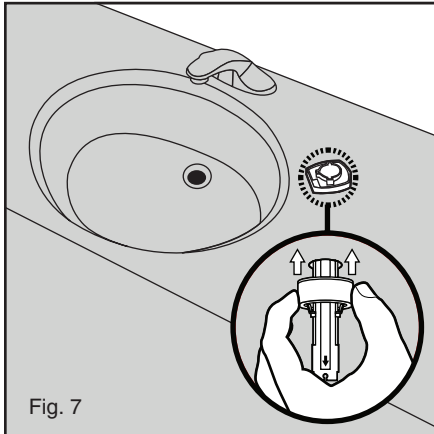

Fig. 7
- 8. Remove the adhesive liner from the plastic support ring and from the underside of the countertop, slide it thru the support shaft and push it until up until it sticks to the underside of the countertop (see figure 7).